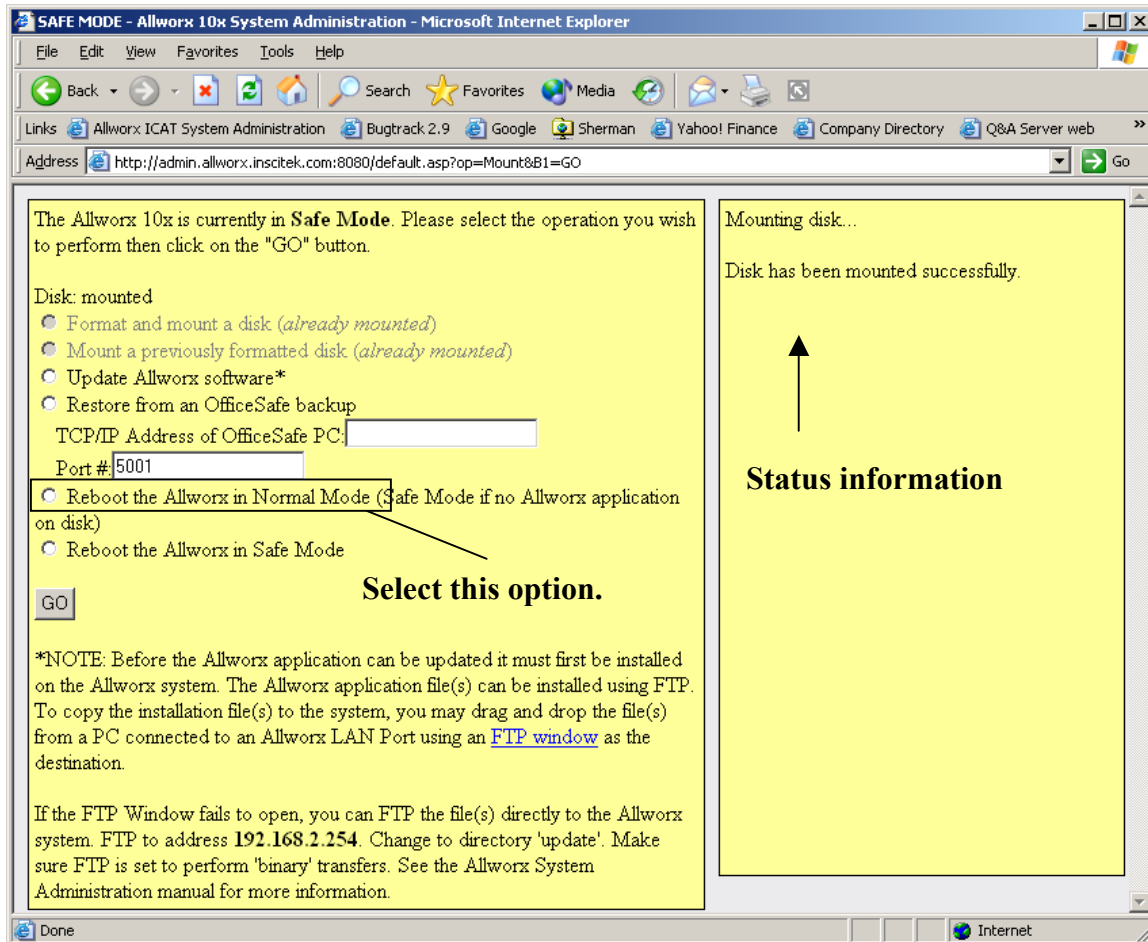

Figure 8-3 – Safe Mode Window after Disk Mounting
15. Click OK. Disk mounting will begin with status of the process displayed in the right Status pane of the Safe Mode window. New options will appear in the left pane (Figure 8-3).